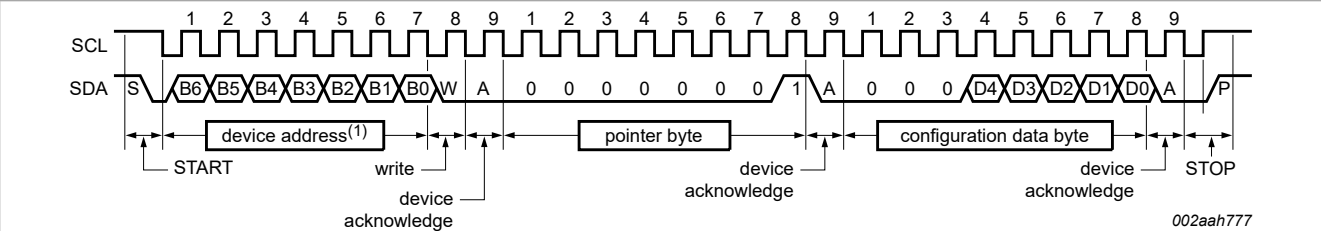
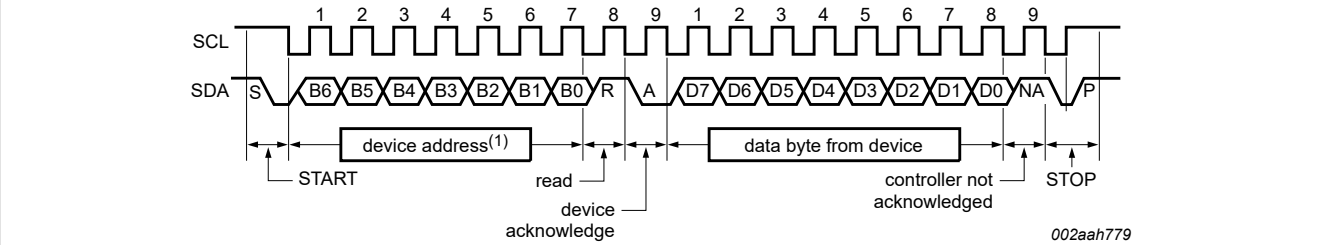
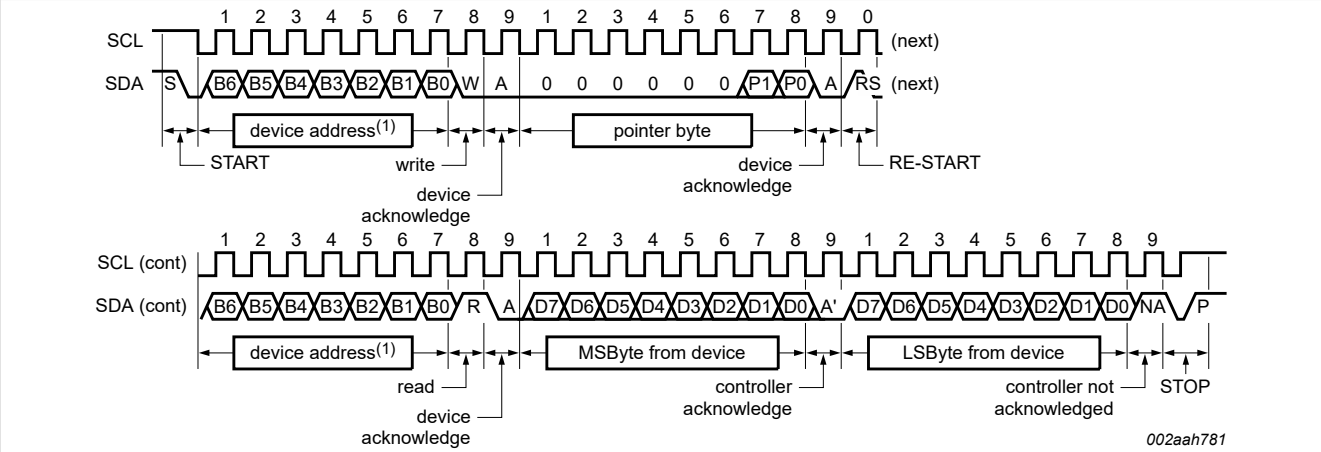
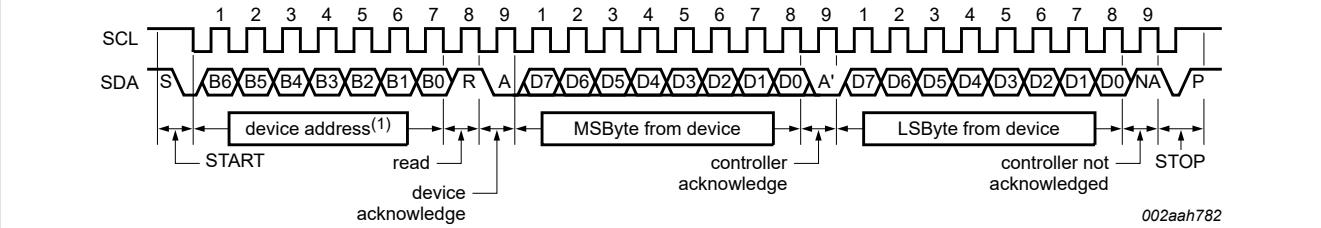

Figure 17. Write configuration register (1-byte data)
Figure 19. Read configuration or temp register with preset pointer (1-byte data)
Figure 21. Read register including pointer byte (2-byte data)
Figure 22. Read register with preset pointer (2-byte data)
The communication between the host and the device must strictly follow the rules as defined by the I²C-bus management. The protocols for device register read/write operations are illustrated in Figure 17 to Figure 22 together with the following definitions:
- 14. For best temperature accuracy both temperature bytes should be read as shown in Figure 21 and Figure 22 but for a quick less accurate check/reduce bus transmission than only one byte, the MSByte, must be read as shown in Figure 19.